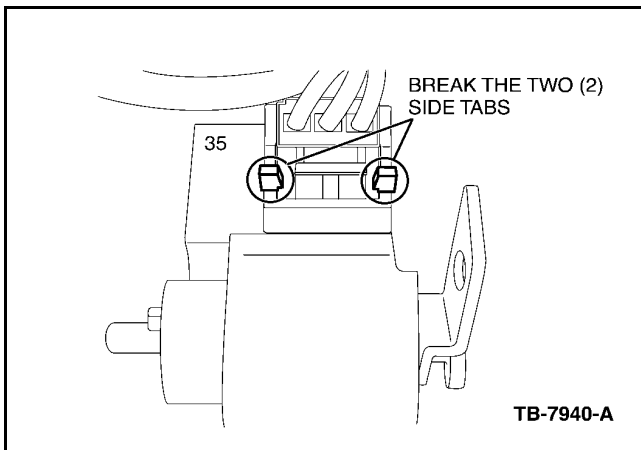

Figure 5 - Article 04-22-12
6. Break the two (2) side tabs off the BSI by the white wiring connector (Figure 5).